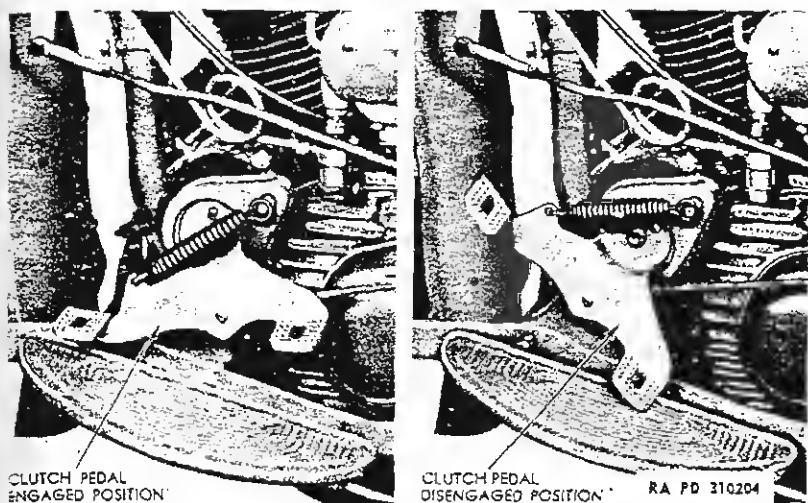

Figure 7—Clutch Pedal Positions
e. **Clutch** (fig. 7). Clutch is operated by left foot (rocker-type) pedal, connecting with steel cable, which actuates clutch release lever. Pedal is located on left side of motorcycle above footboard. Forward downward (toe) position of pedal engages clutch. Rear downward (heel) position of pedal disengages clutch. Foot pedal provided with friction device to retain it in either engaged or disengaged position.
(3) Engage clutch (fig. 7).
(4) Spark control (left) grip must be turned inward to fully advanced position, or nearly so.
(5) Foot starter crank may travel $\frac{1}{2}$ way downward before starting engine. See that a full vigorous starter stroke is used. A vigorous kick, using a full swing (not a jab) of right leg and hip, is correct engine starting practice.